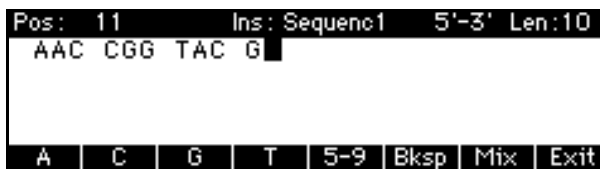

Figure 3-6 Sequence Editor—Entry Mode
- Mode of entry (Ins/Repl/Mix) (see Figure 3-6)
Entering a Sequence When you select Insert or Replace, the sequence entry mode screen is displayed (Figure 3-6).